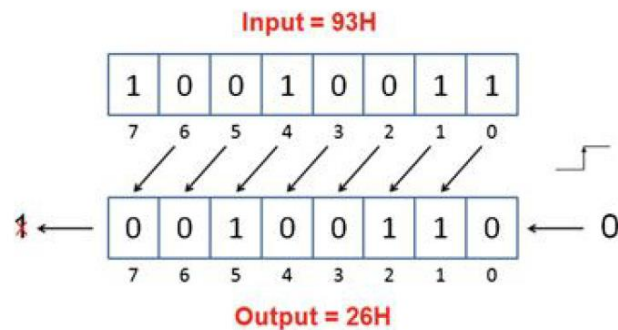
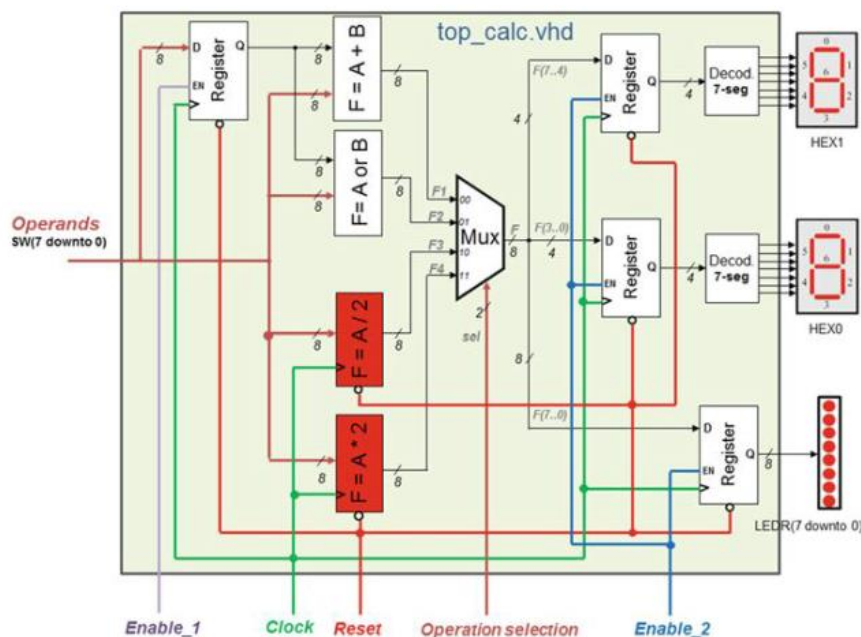

figure 2: functionality of a shift register
Figure 4: modified calculator with multiplication operations.
In this section we will replace XOR and NOT (C3 and C4) components in our calculator with two components to divide and multiply the input operand. we will be using the shift registers to achieve these operations. An illustration of the operation of a shift register is given in Figure 2. Figure 4 shows the whole circuit, where the modified blocks are shown in red.
3. Wire the circuit appropriately in top_calc.vhd to accommodate for both left shift and right shift with the shiftreg components referring to Figure 4.